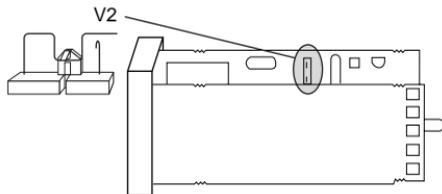

Figure 1
- 3) Open switch V2, located 1 inch behind the upper right corner of the display (see Figure 1).